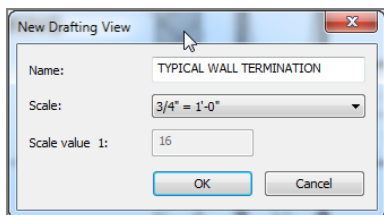

FIGURE 12.51: Changing the view name and scale
3. Change the scale to $3/4" = 1'-0"$ (1:20 for the metric users). (See Figure 12.51.)